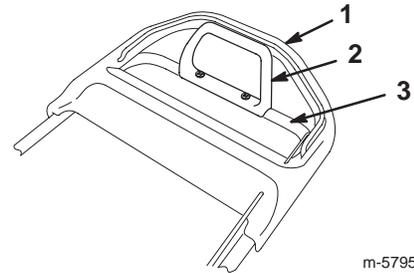

Figure 3
6. Center the traction assist handle on the upper handle bar, and ensure that the upper part of the handle curves rearward and touches the upper handle (Fig. 3).